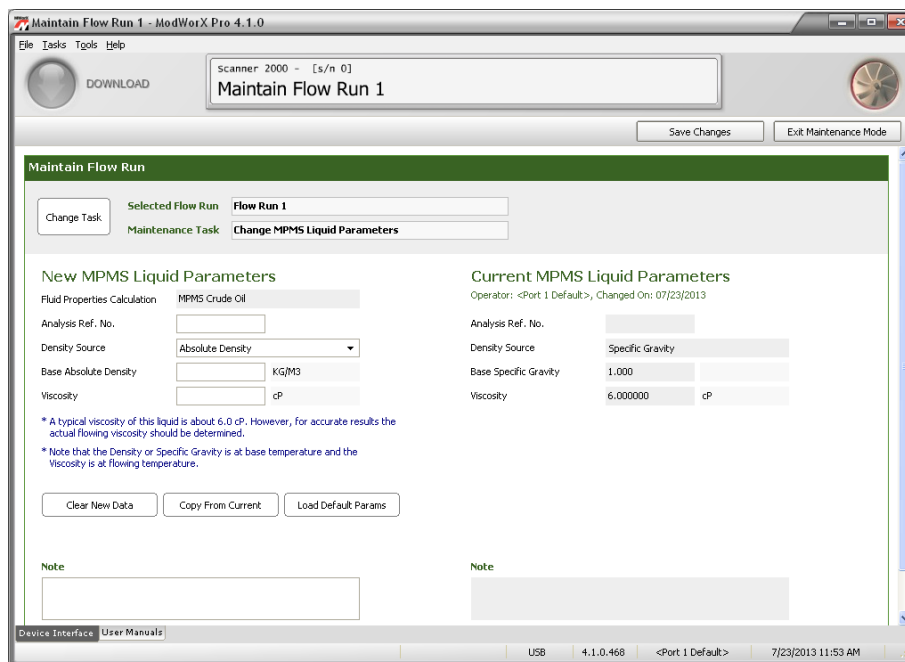

Figure 11.12
- b. Click **OK** to save the settings and return to the Maintain Flow Run screen (Figure 11.12, page 159).